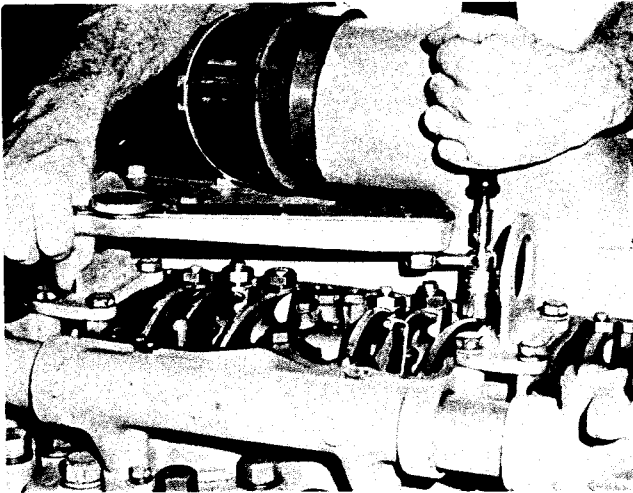

Fig. 5-21. Adjust valves
2. Loosen locknut and back off the adjusting screw. Insert feeler gauge between rocker lever and top of the valve stem or crosshead. Turn the screw down until the lever just touches the gauge and lock the adjusting screw in this position with the locknut. Fig. 5-21.